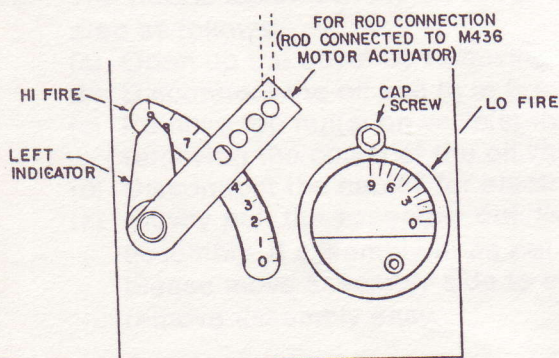

Fig. 5
- 7.g) When the burner is OFF, both air shutters should be closed. (Check under air intake box). Ref: Fig. 5.
- 13.2 Open the burner air adjustment partially, (Ref. Fig 5 and 6) open the fire or inspection door and turn on the service switch. Adjust draft regulator for maximum chimney draft.
THROUGH THE LIMIT WHEN CONTROL IS POWERED, THE BURNER MOTOR STARTS: DUE TO POWERED DRAFT NOW THE AIR SHUTTER OPENS UP WHICH CAN BE ADJUSTED TO DESIRED OPENING. (FIG.5 REF.7 A TO C) WITH 5 SECOND DELAY TIMER FIRST STAGE OIL VALVE OPENS AND LOW FIRE IS ESTABLISHED. AFTER THIS DELAY SIMULTANEOUSLY DAMPER MOTOR IS POWERED THROUGH HILO SWITCH WHICH IN TURN OPENS SECOND STAGE AIR SHUTTER. (REF.7. D TO G) THE LINKAGE ROD IS USED TO PROPER DESIRED OPENING. AT DESIRED OPENING OF THE AIR SHUTTER SECOND STAGE OIL VALVE CAN BE POWERED WHICH IN TURN ESTABLISHES SECOND STAGE FLAME. (HI-FIRE).